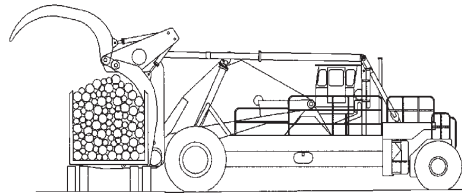

Figure 5-6
2. Move in until the back of the carriage is against the load. Observe the location of carriage, kickoffs, and holddowns in relation to log truck. Partially clamp logs to prevent logs from rolling off (See Figure 5-6).